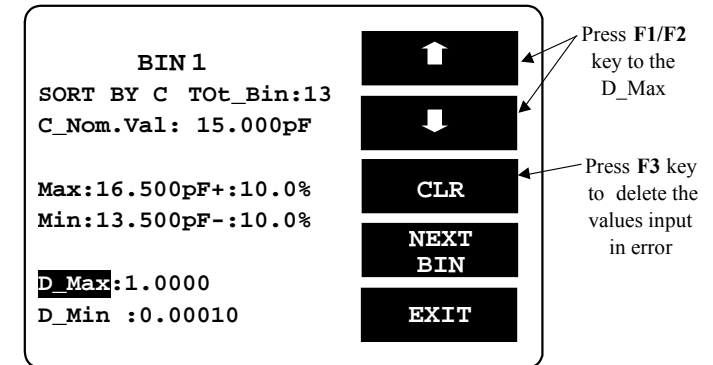

Figure 8-21
- Set the largest D value of secondary parameter. Please refer to Figure 8-21 below.